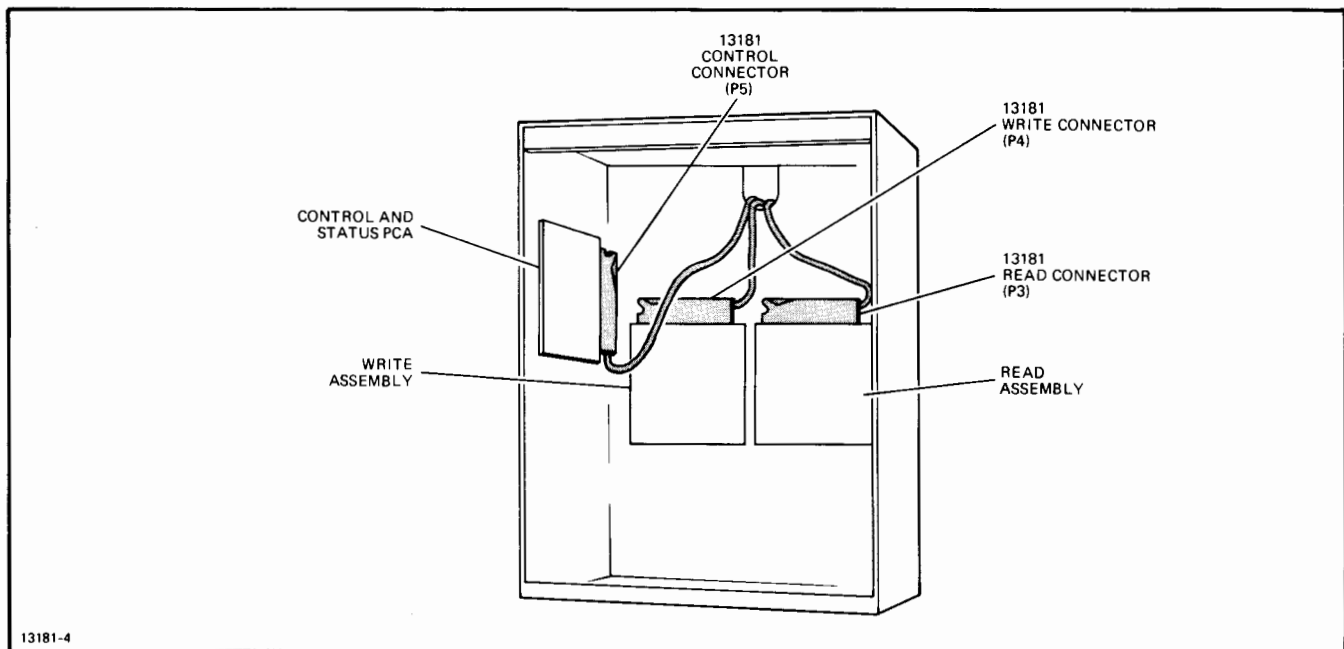

Figure 2-2. Interconnect Cable Installation at the Tape Unit
2-12. The interconnect cable consists of three twisted-pair cables with keyed connectors and is installed as described below (see figure 2-2):
- c. Gain access to the tape unit interconnect facilities and route the cable within the tape unit as illustrated in figure 2-2.